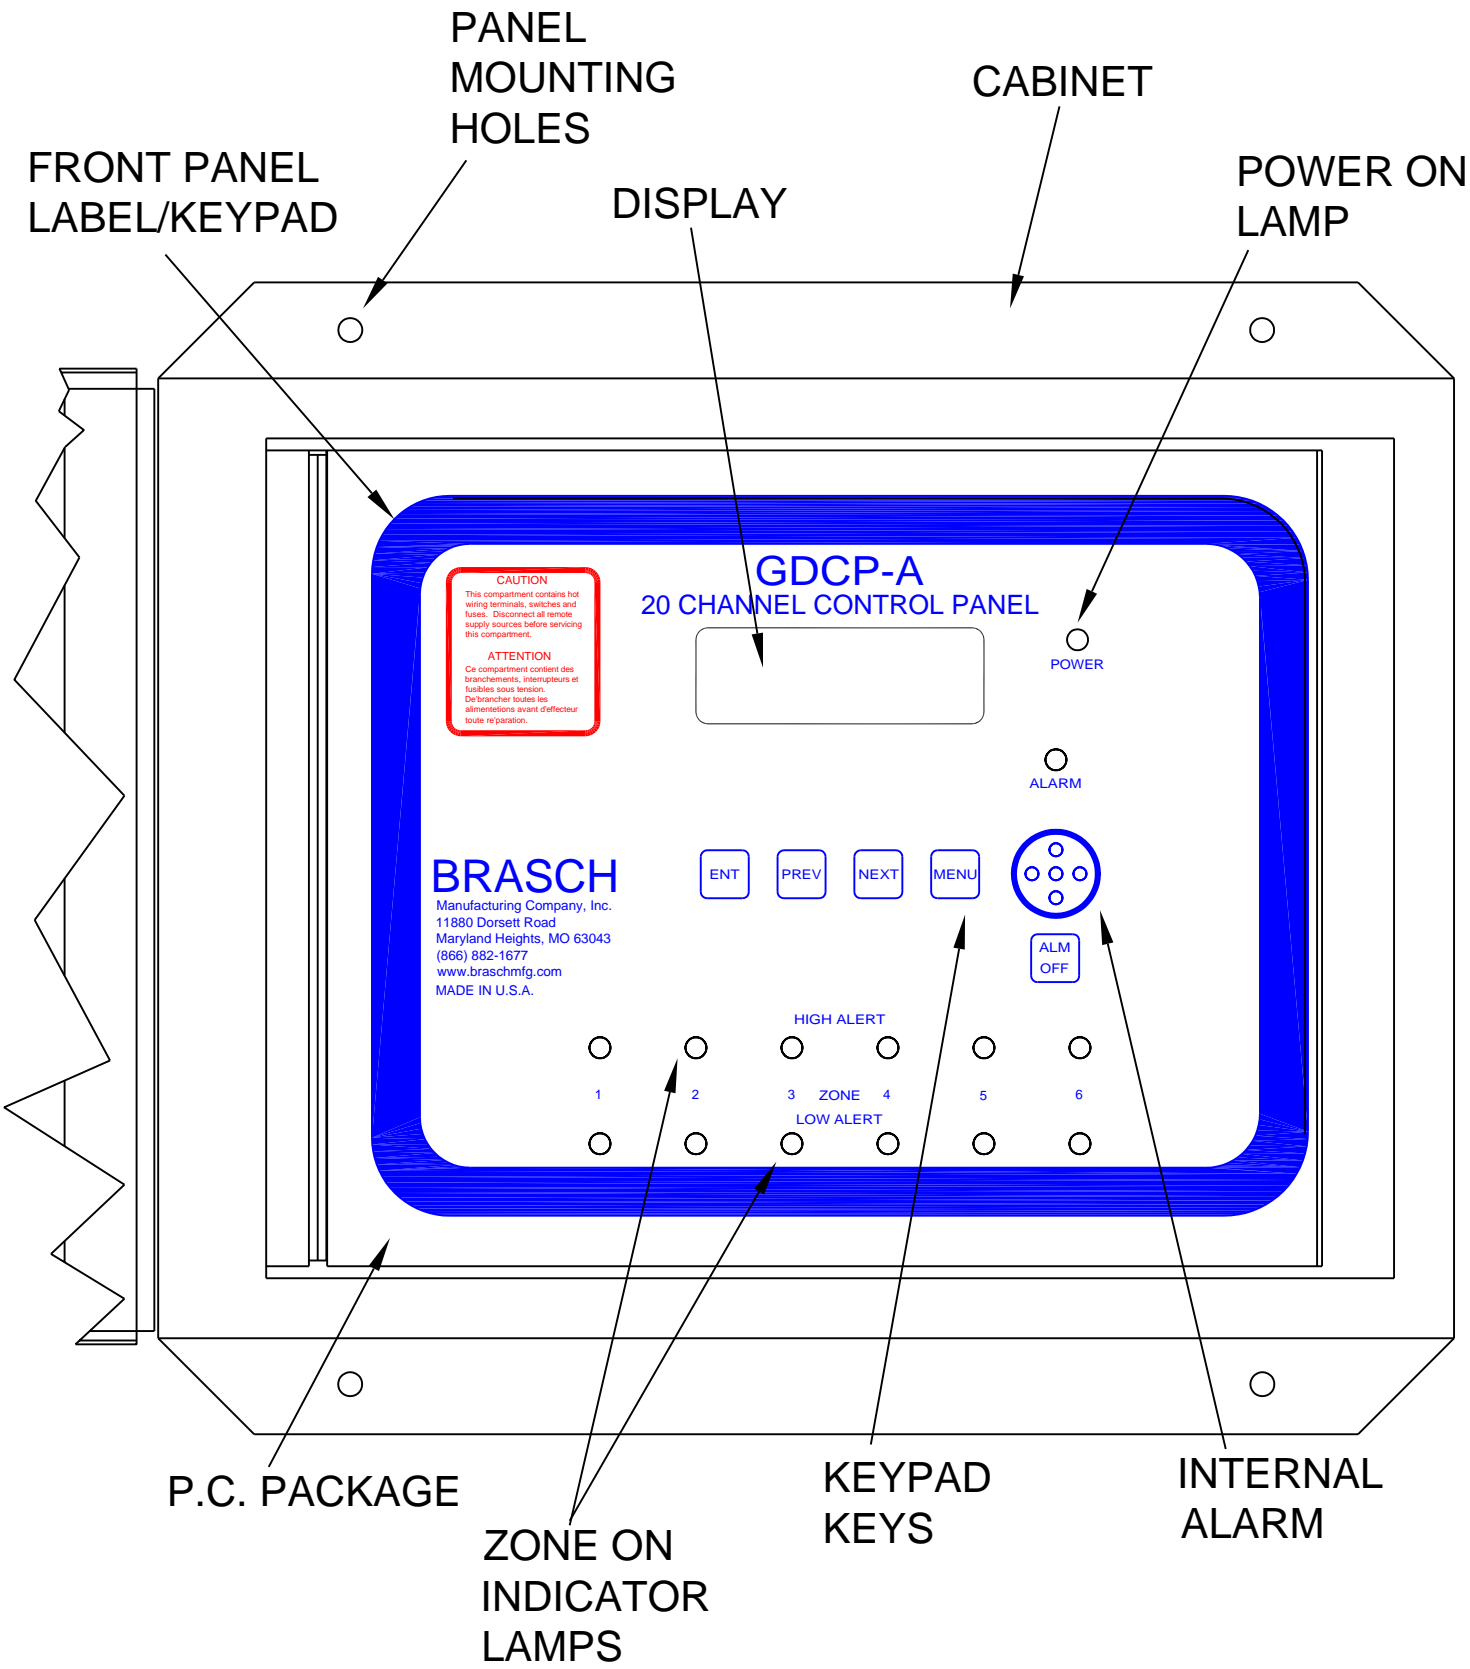

FIG 7: GDCP-A front, internal view of front panel layout.
**3-5.1** The GDCP-A Control Panel uses a four key keypad and a liquid crystal display to enter or change the programming for the various functions. **Please see Fig. 7, page 21, for the location of the various front panel features.** The routine involves displaying a programming choice on the LCD and waiting for the operator to respond by pressing one of the four keys. Depending upon the key pressed, a parameter is entered into the program, or the next programming choice is presented on the LCD.